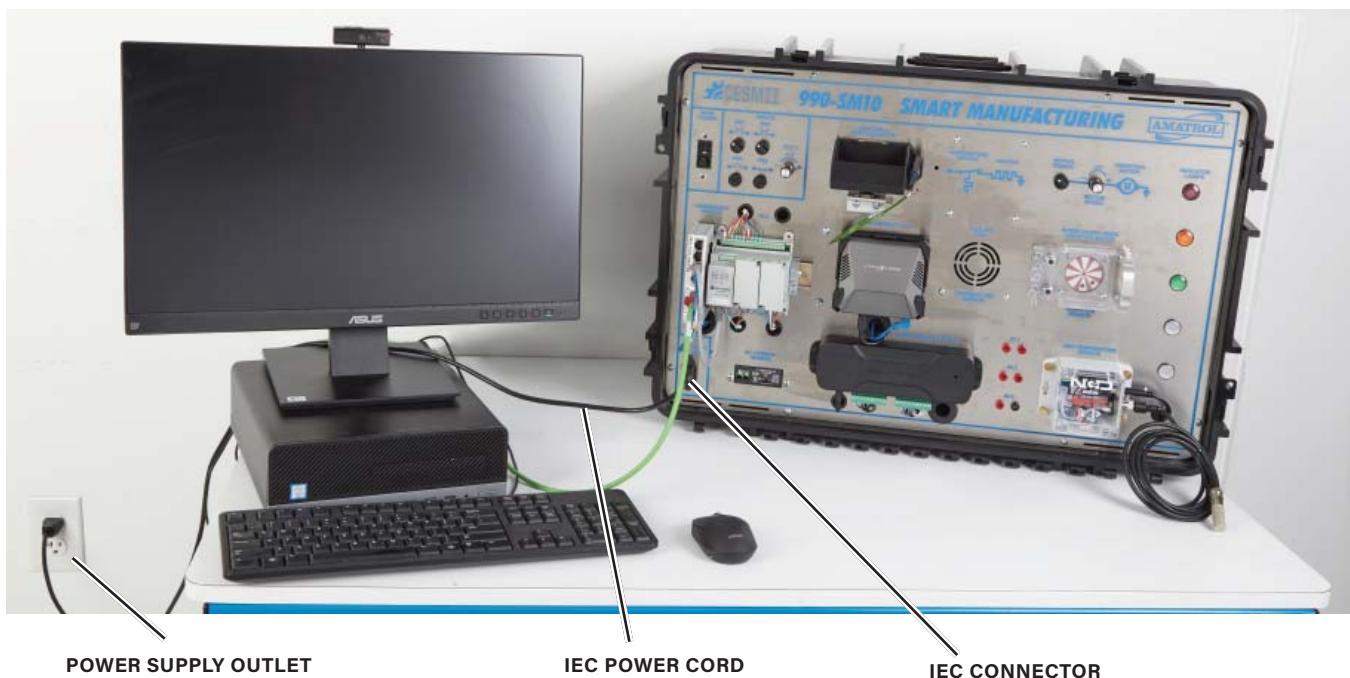

Figure 9-2. IEC Power Cord Plugged into AC In Port and Power Supply Outlet
- A. Connect the IEC power cord to the IEC connection on the workstation and to an AC wall outlet, as shown in figure 9-2.